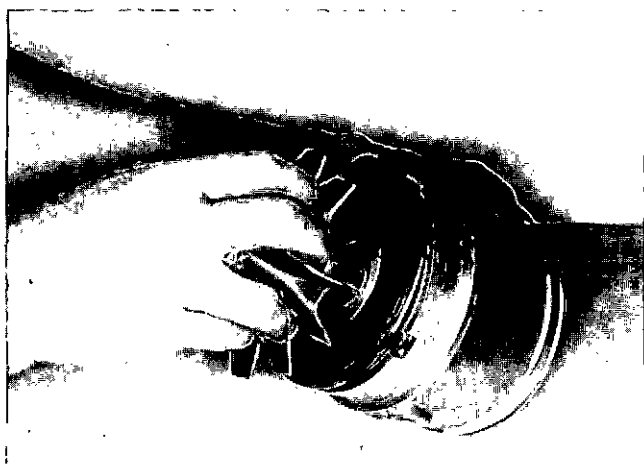

Fig. 3-12, (VTST37). Installing the turbine wheel and shaft into the bearing housing
5. Coat the bore of the bearing housing with STP oil or the equivalent. Insert the rotor shaft in the housing, Fig. 3-12.